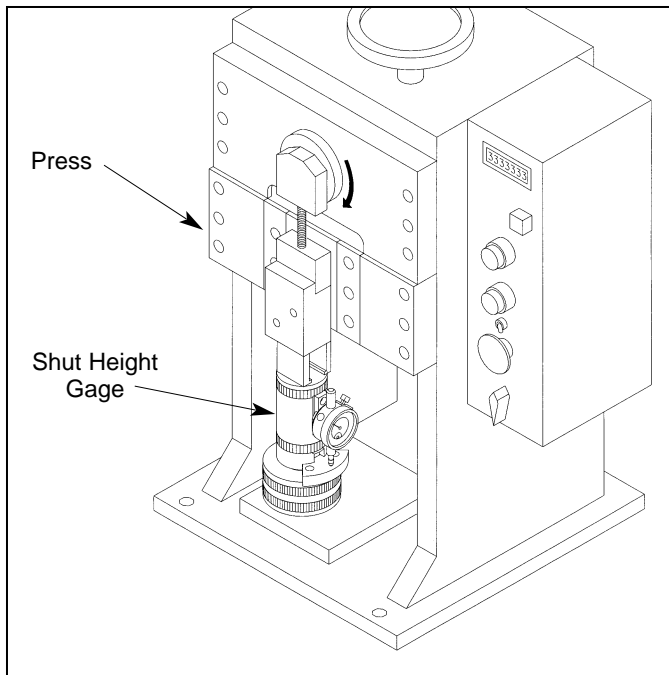

Figure 2.1 Shut Height
- 2.1.1.3 Place the shut height gauge into the press on the press base plate. Refer to Fig. 2.1)